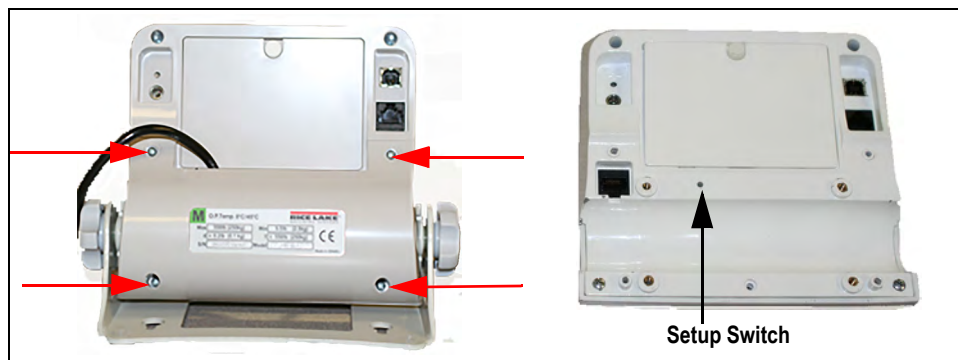

Figure 4-1. Back of Indicator
2. Remove the back plate by loosening the two Phillips screws and two drilled hex head screws (Figure 4-1).